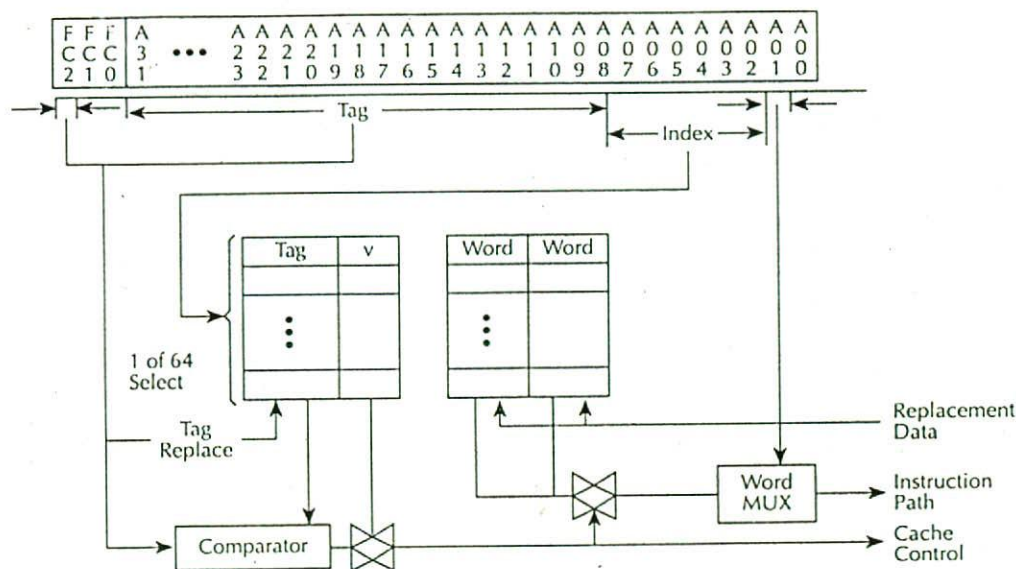

FIGURE 6.13 MC68020 on-chip cache organization.
The MC68020 has a 256-byte direct-mapped instruction cache organized as 64 long word entries. Each cache entry consists of a tag field made up of the upper 24 address bits, the FC2 (user/supervisor) value, one valid bit (V), and 32 bits (two words) of instruction. Figure 6.13 shows the MC68020 on-chip cache organization. The 68020 cache only stores instructions; data or operands are fetched directly from main memory as needed.